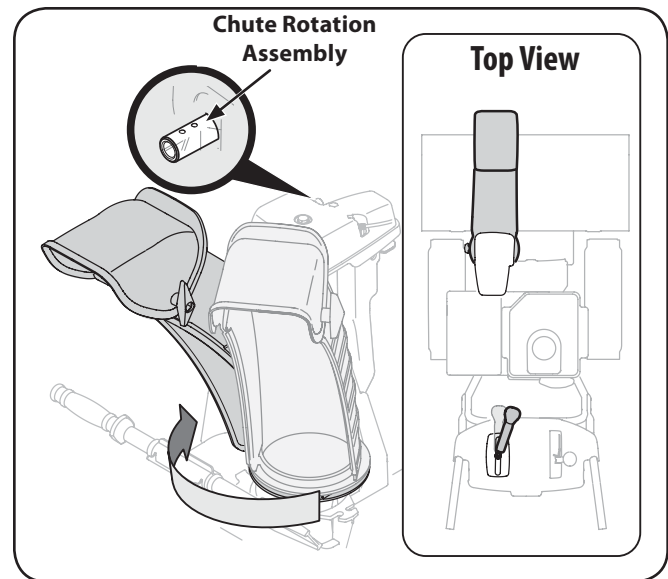

Fig. 3-6
4. Squeeze the trigger on the joystick and rotate the chute by hand to face forward. The holes in the chute rotation assembly will be facing up. See Fig. 3-6.
**NOTE:** The joystick will be angled slightly to the right at the one o'clock position. See "Top View" in Fig. 3-6.